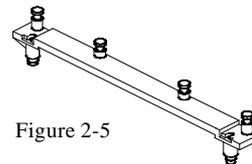

Figure 2-5
- Heat Sink Support Base (HSSBASE) - Plastic support bar mounted to the mainboard under the ATX heat sink. (Refer to Figure 2-5)